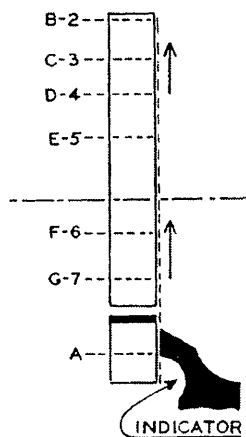

Fig. 16-9
1. Place wheel in caliper and set the indicator, figure 16-9.
7. Move wheel in direction of arrow, figure 16-9, until the distance between the rim of wheel and the indicator increases or decreases. For our purpose we will say this distance has increased.